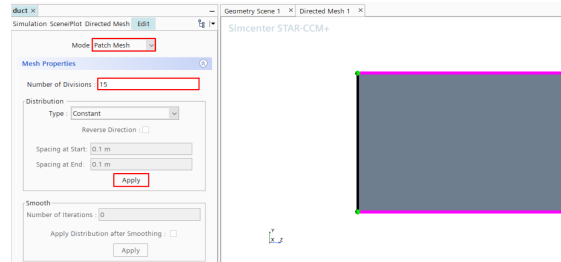

Figure 25: Process of specifying the horizontal mesh divisions.
8. At the top of the *Explorer Pane*, change to mode from **Patch Topology** to **Patch Mesh**. This is where the number of nodes in each direction on the source surface are specified. Click on one of the horizontal edges. The **Mesh Properties** section in the *Explorer Pane* will become available once done correctly. Change the number of divisions to 15 and click **Apply**, as shown in Figure 25.